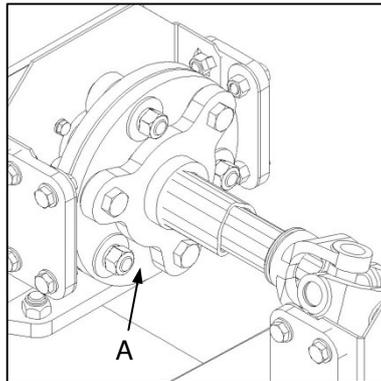

Fig. 6
- ✔ Inspect the rubber diaphragm couplings and replace any diaphragms (Fig. 6-A) which display evidence of distortion, splitting or cracking.
- ✔ Gaan die rubberdiafragmakoppelings na en vervang enige diafragmas (Fig. 6-A) wat teken van verwringing, skeure of krake toon.